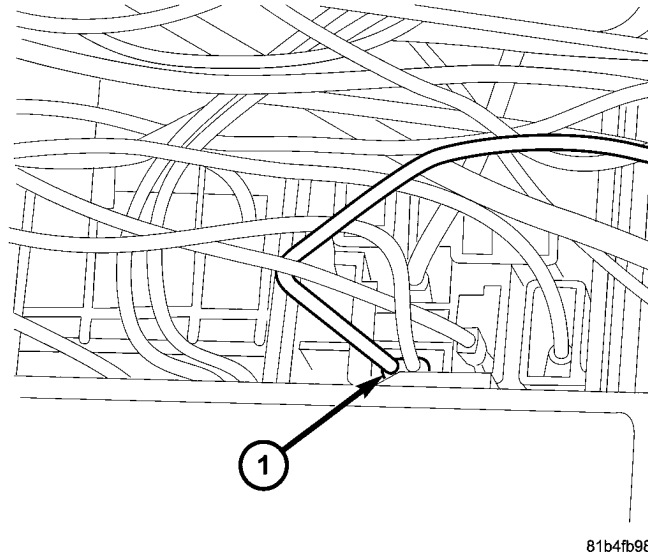

Fig. 1 TWO 20 GA. PK/WT WIRES - A13
6. Locate the terminal end in PDC cavity A13 that connects to the ASD relay pin 85. Two 20 gauge wires, each of PK/WT color, are crimped to this terminal end. (Fig. 1).